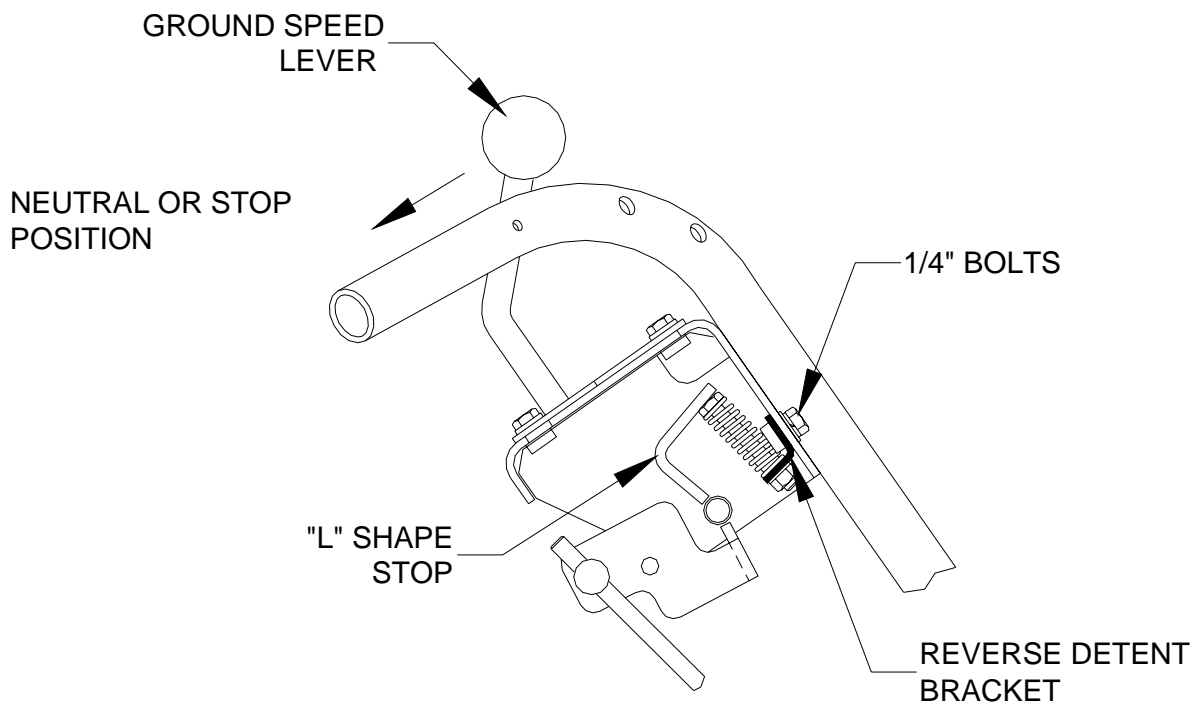

FIGURE 3
4. Loosen the two 1/4" bolts holding the reverse detent bracket. Slide the bracket up or down until it just touches the "L" shape stop under the console. Holding the bracket against the stop retighten the two 1/4" bolts. Repeat on other side if needed. (See Figure 3.)